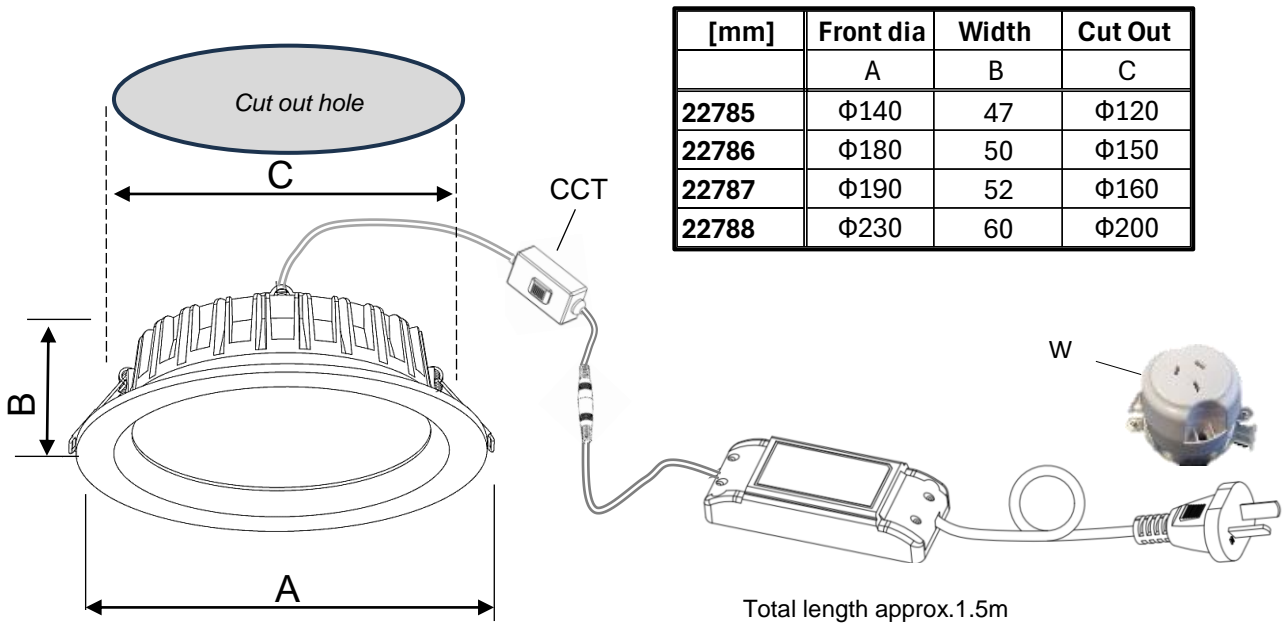

Fig 1
- Use a hole saw and carefully cut the hole in the plaster. Use suitable personal protection equipment. Hole saws vary in the actual hole size, so it is best to cut a hole in a scrap piece of plaster to check the fit. ( Fig 1)